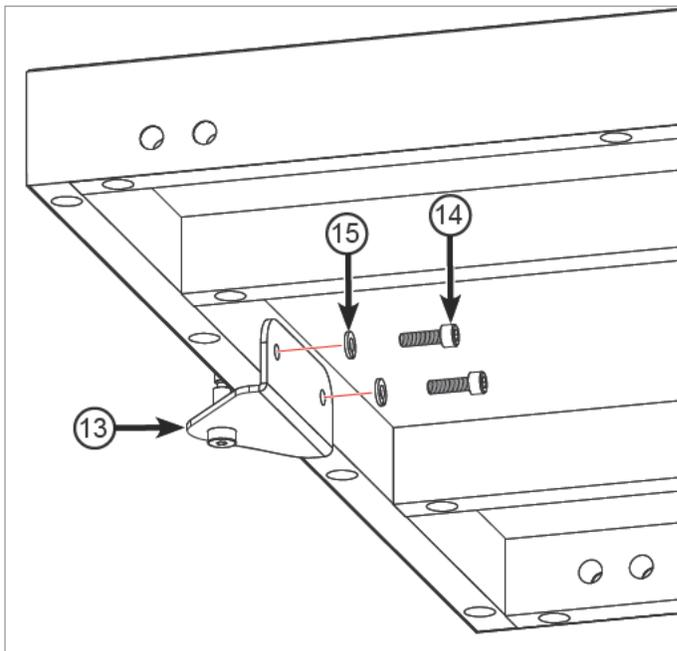

Fig. 16
The first step in mounting the extension table is to install the adjustment bracket (13) included in the T-Glide Table Hardware Pack. Remove the adjustment bracket, two M6 x 18 socket cap screws (14), and two M6 lock washers (15) from the T-Glide Table Hardware Pack, and place a lock washer on each screw. One end of the extension table includes two holes and the adjustment bracket has two corresponding holes. Position the adjustment bracket against the inside edge of the extension table, align the holes, and thread the screws into the holes (See Fig. 16). Tighten the screws with a 5 mm hex key.